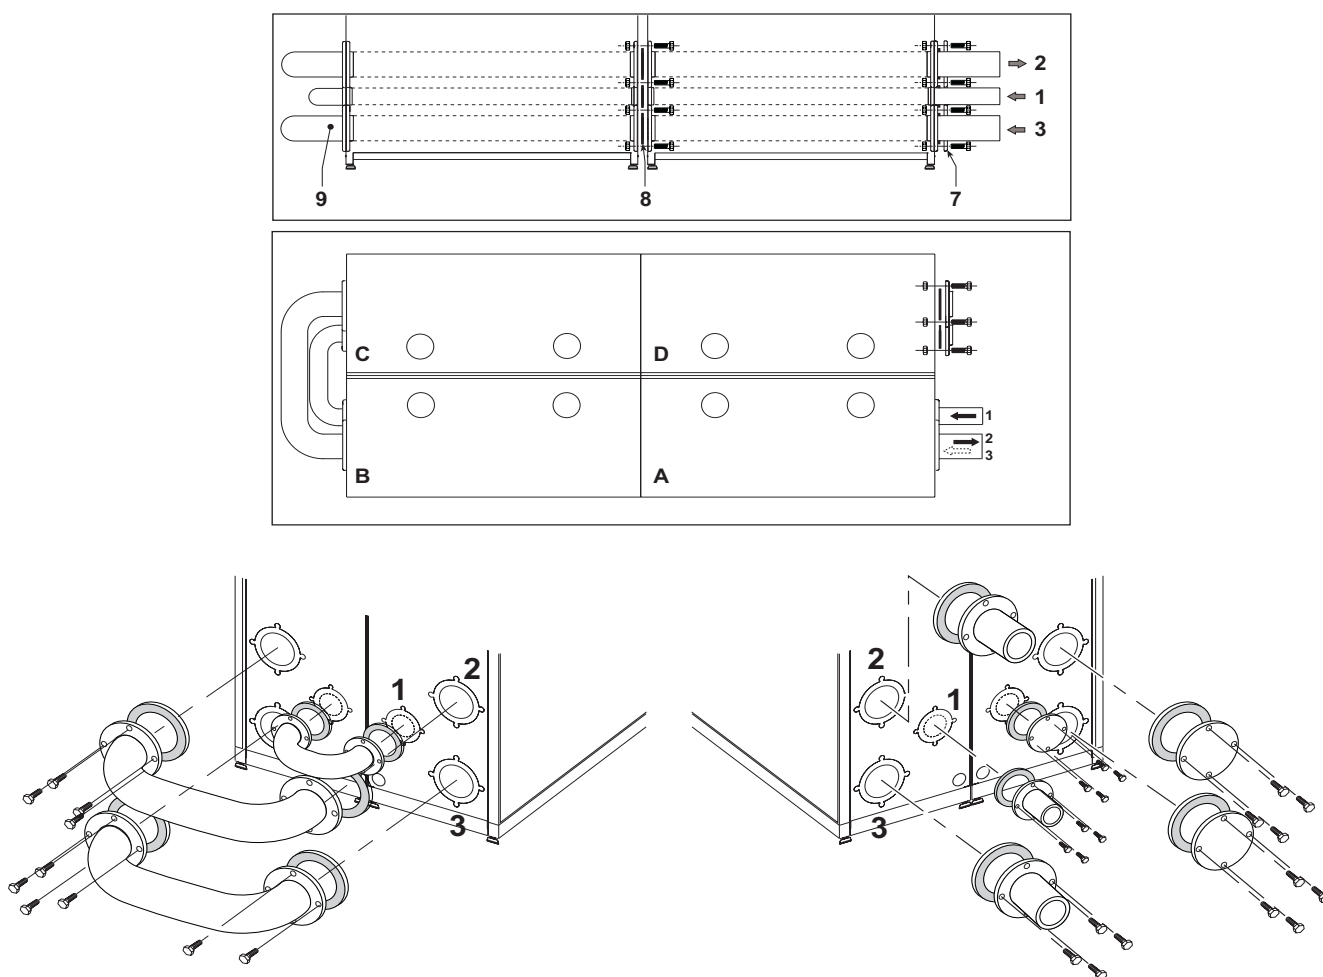

fig. 20 - Kit for connection of opposed modules
- Arrange the modules according to the layout of fig. 20.